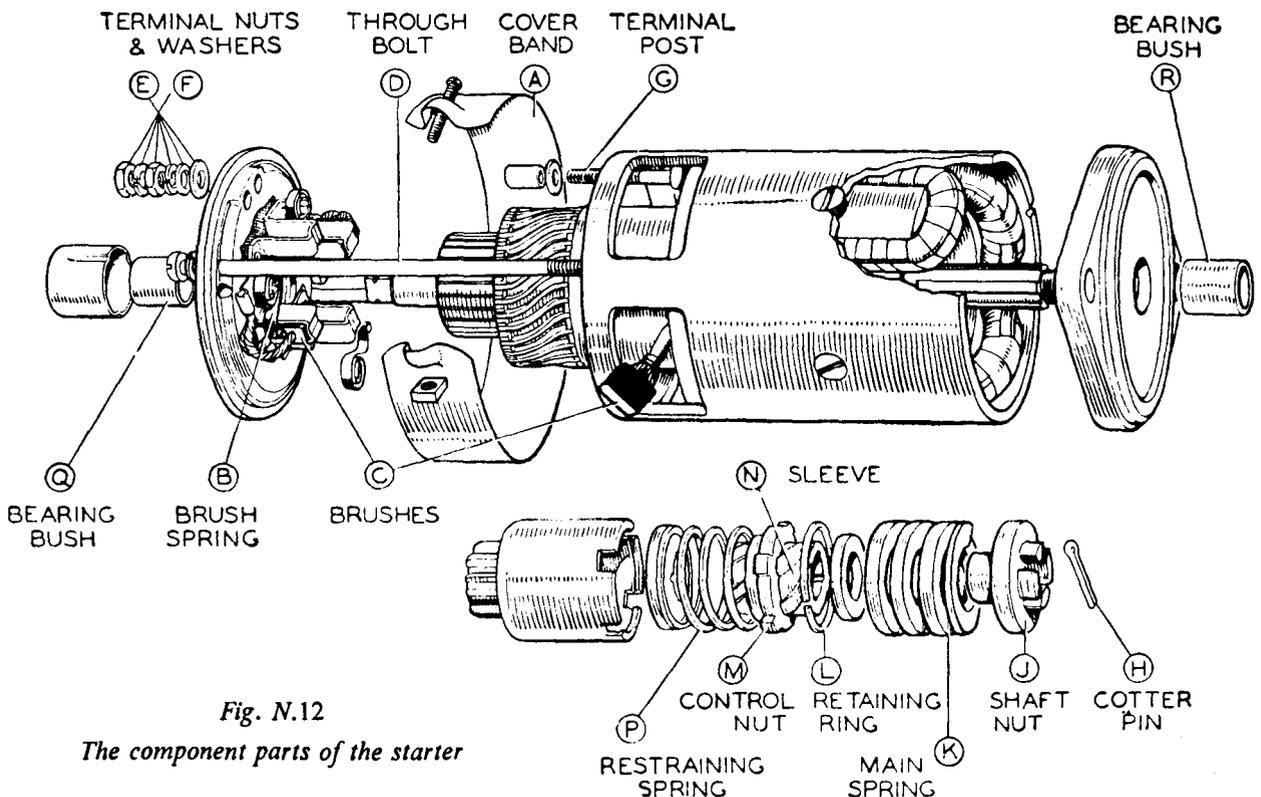

Fig. N.12
- (2) If any parts are worn or damaged they must be renewed.
- (3) Remove the cotter pin (H) (Fig. N.12) from the shaft nut at the end of the starter drive. Hold the squared end of the starter shaft at the commutator end by means of a spanner and unscrew the shaft nut (J).
- (4) Lift off the main spring ( $\kappa$ ) (Fig. N.12) and remove the retaining ring (L).
- (5) The control nut (M), sleeve (N) and restraining spring (P), will now slide off.
- (6) Withdraw the splined washer from the armature shaft and remove the pinion and barrel assembly.